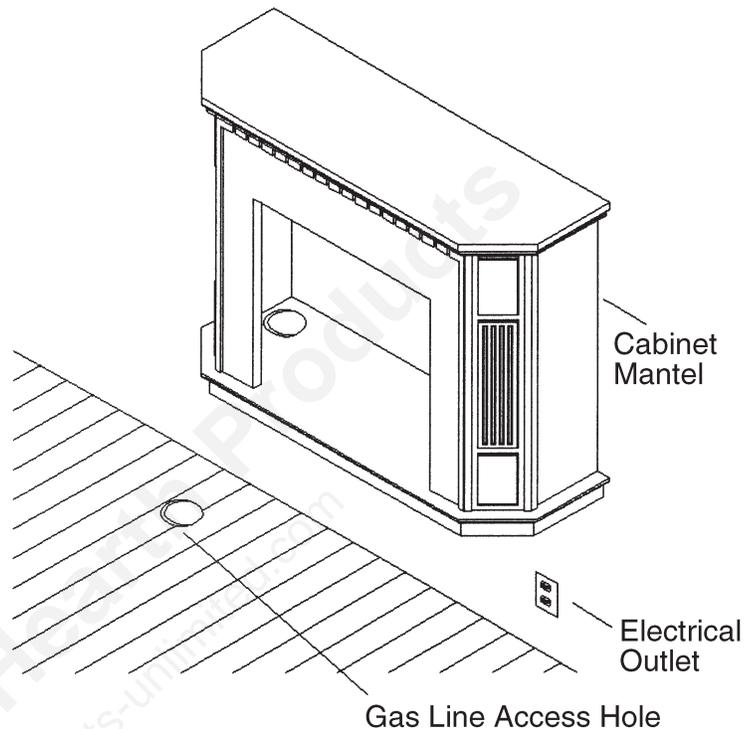

FIGURE 9 – Installing Cabinet Mantel
2. If using an optional Blower, install a properly grounded, 120 volt three-prong electrical outlet. See *Installing optional Fan Kit*, page 35, for complete installation. If possible, locate outlet so cabinet mantel will cover it when installed (see Figure 9).
3. Install gas piping to firebox location. See *Installing Gas Line*, page 20. You may have to cut an access hole in the floor or wall to run gas line to firebox. Make sure to locate access hole so cabinet mantel will cover it when installed (see Figure 9).